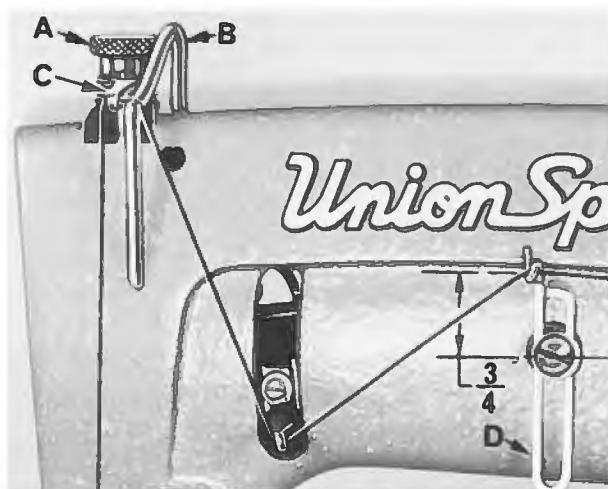

Fig. 12
Regulate the presser spring regulating screw (A, Fig. 12) so that it exerts only enough pressure on the presser foot to feed the work uniformly when a slight tension is placed on the fabric. This is the knurled screw, located directly behind the needle bar in the head of the machine. Turning it clockwise increases the pressure, counterclockwise acts the reverse.
Set the needle thread take-up wire (B, Fig. 12), located adjacent to the needle bar thread eyelet (C), so that its upper surface is even with the top of the holes in the needlebar thread eyelet when the needle bar has completed its downward stroke. Lower this setting for a smaller needle thread loop, and raise it for a larger loop. Set the needle thread frame eyelet (D) so that the eyelet hole is $\frac{3}{4}$ inch above the attaching screw. On Styles 56500 J and 56900 J the eyelet is to be set $\frac{5}{8}$ inch above the attaching screw.